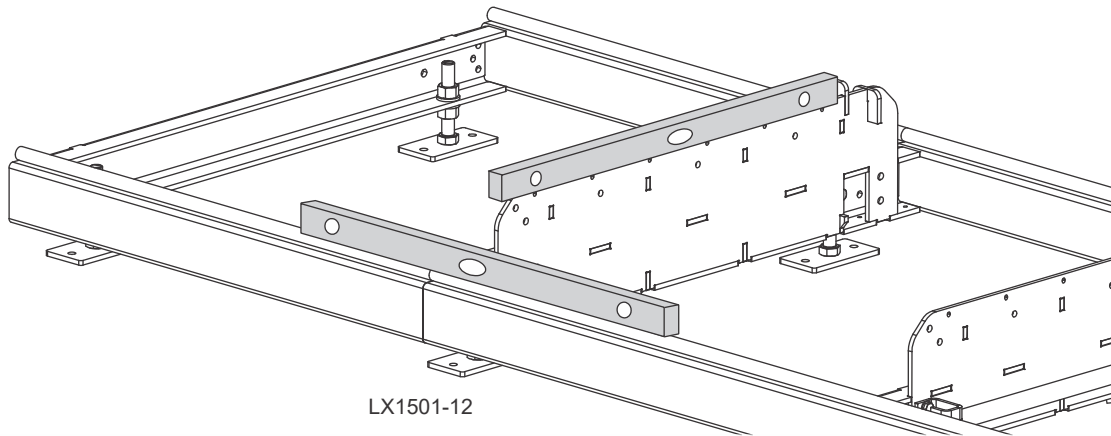

FIG. 3-7
See Figure 3-7.
1. Adjust the frame legs so the sawmill appears level as shown in Figure 3-7 and 3-8.